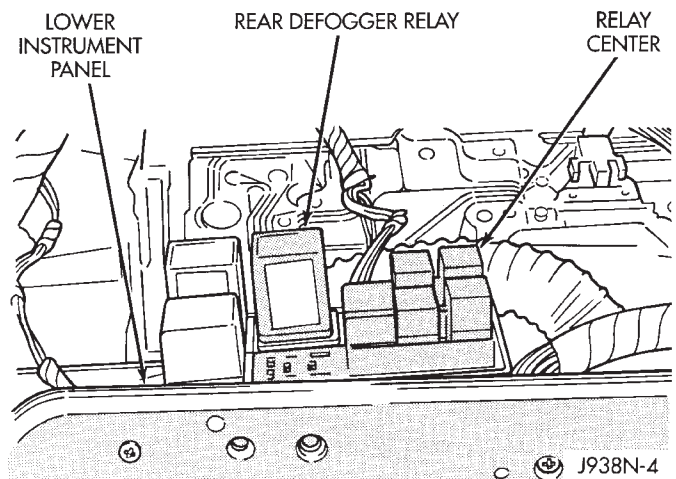

Fig. 2 Rear Defogger Relay Location—XJ
- (1) Remove the rear defogger relay (red) from the relay center (Fig. 2).
- (2) To install the relay, reverse the removal procedures.